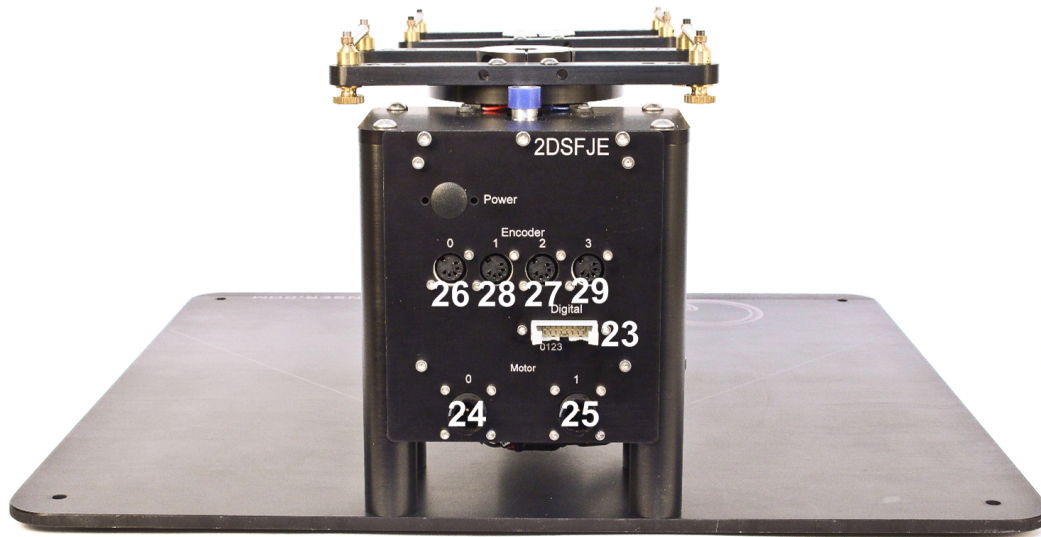

Figure 2.2: 2DSFJ Robot Connection Panel
Table 2.2 provides a list of all the principal elements composing the 2DSFJ Robot connection back plate. Every element is located and identified, through a unique identification (ID) number, as represented in Figure 2.2.
As a safety precaution, two limit switches are installed at the minimum and maximum rotational positions of each of the two flexible joints. They are magnetically-operated position sensors powered by an external ± 15 VDC power supply which connects to component #23 in Figure 2.2. Specifically, they are the Hamlin 55100 Mini Flange Mount Hall Effect Sensors.